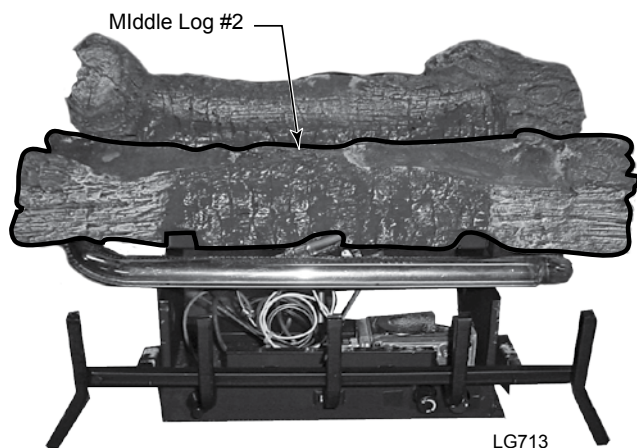

Figure 24 - Place Middle Log
2. Place Middle Log (#2) on middle support. *Figure 24*